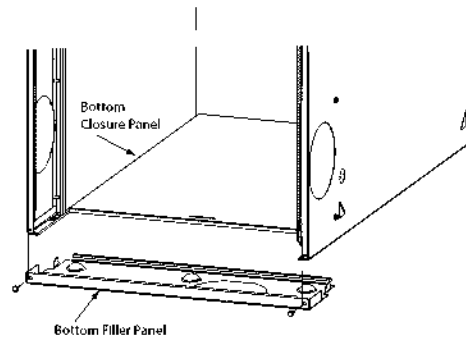

Fig. 9 – Removing Bottom Closure Panel
1. Tilt or raise furnace and remove 2 screws holding bottom filler panel. (See Fig. 9.)